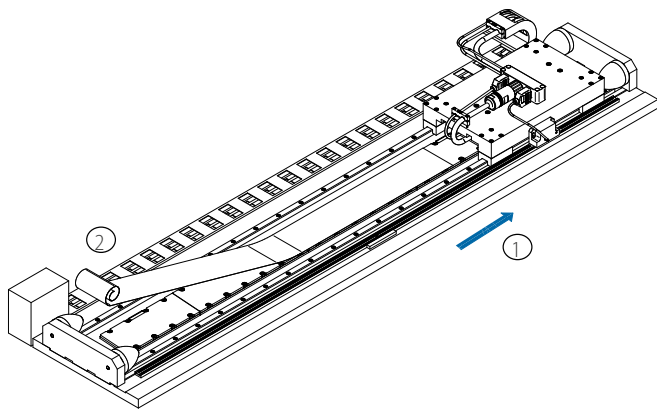

Figure 5.6: Moving the slide and unrolling the cover.
1. Move the slide to one end of the stroke to clear the major part of the magnet track (1). Unroll the cover over the cleared magnet track (2), see figure 5.6.